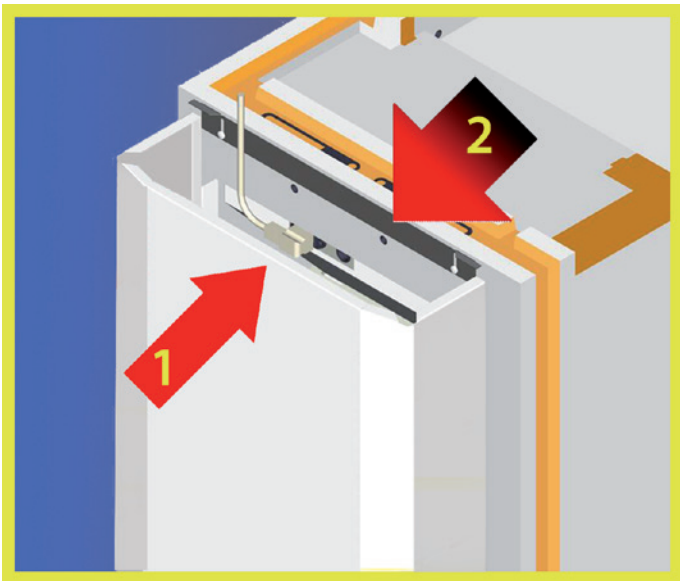

Fig. 15. Installation of the cable and upper front cover.
Installation of the mains cable (Fig. 15). Plug the cable into the socket located at the upper left corner of the unit (1). Install the upper front cover and fasten it by the aid of the lock plate (2). Secure the lock plate by tightening the two screws. If a freezer room is equipped with floor heating cables, they should be connected to an independent power supply.